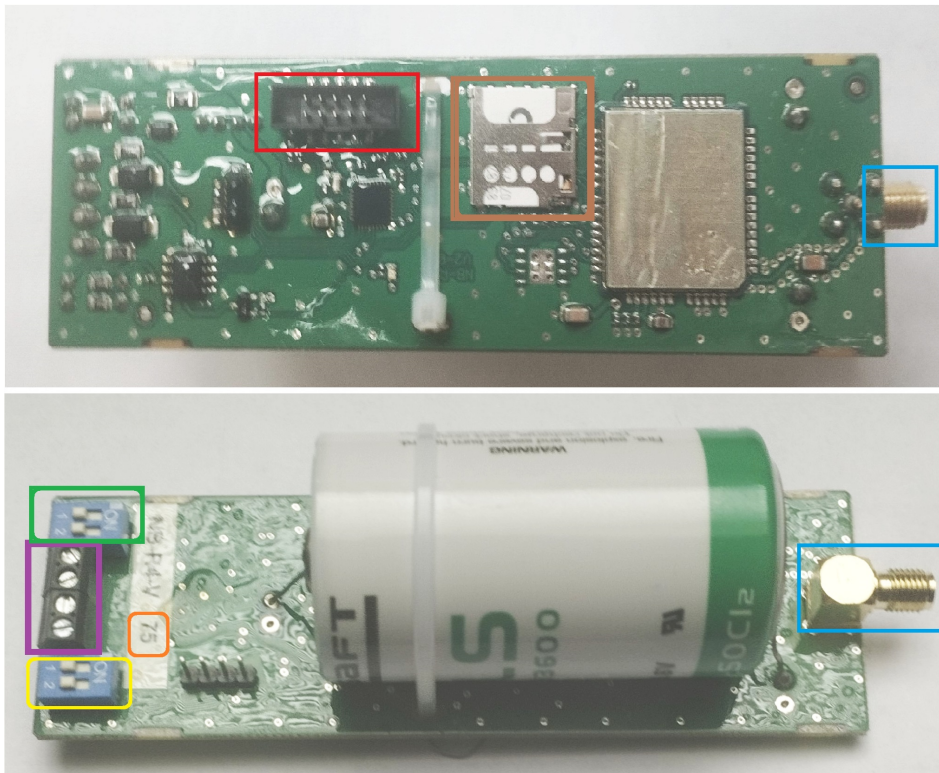

Figure 7: Detail of the printed circuit board of the NB-R4-V module
Figure 7 shows a detail of the module's printed circuit board, highlighting the location of the configuration connector (outlined in red), the NB-IoT radio antenna connector (marked in blue), the RS-485 bus connection terminal block (marked in purple), the battery switch (marked in yellow) and the SIM card holder (marked in green). The serial number on the module label must always match the serial number on the auxiliary label attached to the printed circuit board (marked in orange). The appearance of the printed circuit board may vary slightly depending on the module modification.
- carefully slide the printed circuit board (PCB) out of the module housing. Either slide the board out completely (if it's necessary to screw on the NB-IoT antenna), or only partially so that the configuration connector is outside the housing (see figure 7). If the NB-IoT modem antenna is already installed, help yourself by gently pushing the antenna into the module when sliding out the PCB;